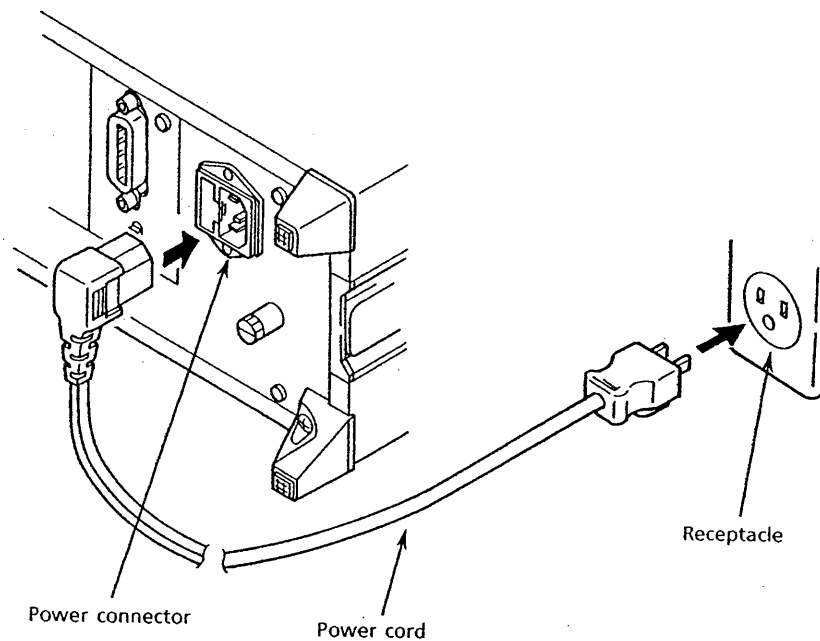

Figure 1.4 Connection to AC Power Supply
(1) Connection to AC Power Supply
- ① To prevent an electric shock or a fire, be sure to use power supply cord and 3 to 2 pin adapter supplied by YOKOGAWA. Main power plug must be plugged in an outlet with protective grounding terminal only. Do not invalidate protection by using an extension cord without protective grounding.
- ② Check that the instrument power switch (on the front panel) is OFF, and then connect the power cord plug to the nearest receptacle, as shown in Figure 1.4.